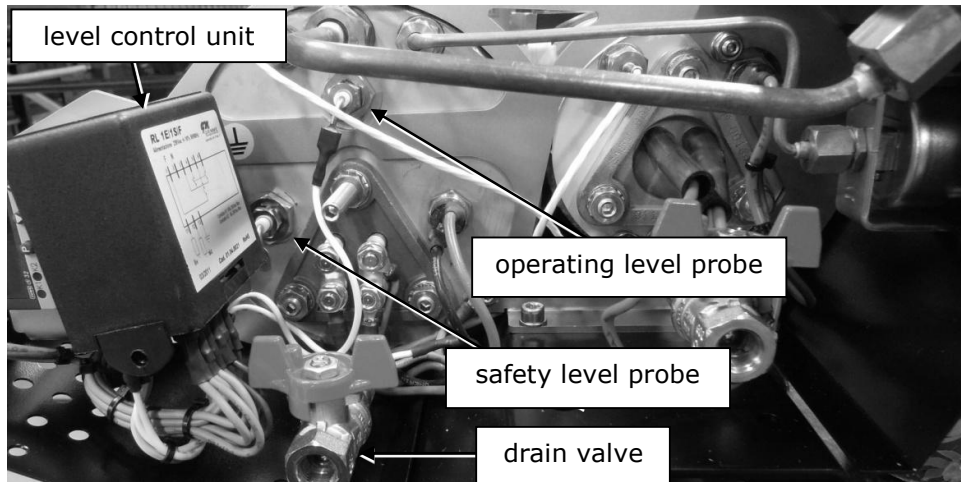

Figure 21. Showing safety level (lower) and operating level (upper) probes. The element cover has been removed.
5. Drain water from hot water/steam boiler: remove plug (or cap in older model) from the hot water/steam boiler drain valve with a 17 mm spanner (see figure 21). Insert the fitting of the drain hose in the open end of the drain valve, dangle the other end in the bucket. Open drain valve on steam/hot water boiler until water stops running. Close drain valve, remove drain hose and fitting, replace plug.
9. Remove the bracket under level control unit with Allen key 2.5 mm, leave temperature controller in bracket, lay aside.